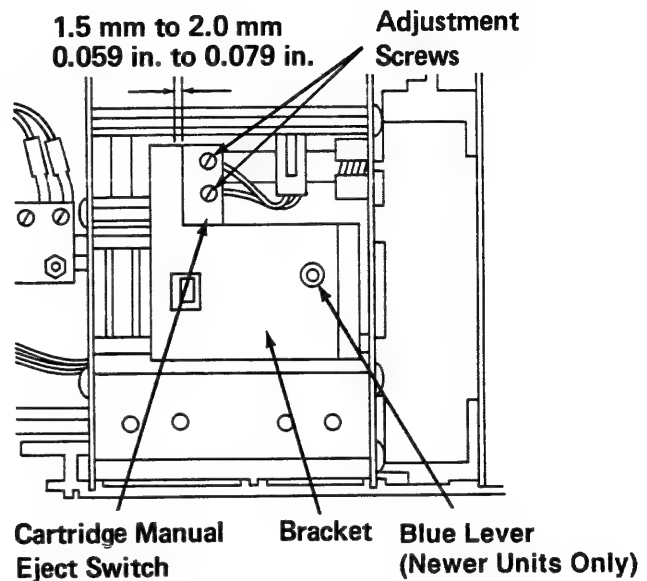

Figure 3-10.11A
8. For **Older** (no Blue Lever) units, turn the Film Speed Control to Diagnostic Code 4 and insert a cartridge. The status code should read 1. Place a Ruler on the left side of the machine and push the Bracket 1.5 mm to 2.0 mm (0.059 in. to 0.079 in.). See Figure 3-10.11A. The Status Code should change to 0.
1. Loosen the Adjustment Screws for the Cartridge Manual Eject Switch (S12) and reposition as required. See Figure 3-10.11A.